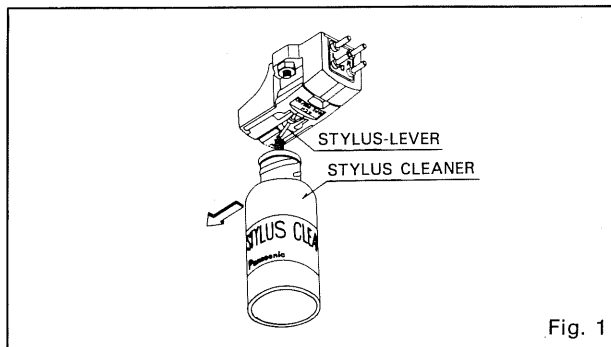

Fig. 1
<ul style="list-style-type: none"> There is dust on the disc or on the tip of the stylus. 	<ul style="list-style-type: none"> Any dust on the surface of the disc is apt to interfere with satisfactory reproduction. Be sure, therefore, to clean away dust completely, using a cleaner or other effective method. To remove dust from the tip of the stylus, use the included stylus cleaner. (See Fig. 1 on page 14)
• If the stylus is used with dust or dirt on its tip, it will not contact the disc groove completely, nor trace perfectly, resulting in sound deterioration as well as damage to both the disc and the stylus tip. Be sure, therefore, to clean away dust and dirt carefully with the included stylus cleaner, moving it from the base of the stylus-lever toward the stylus tip. (Refer to figure 1.)